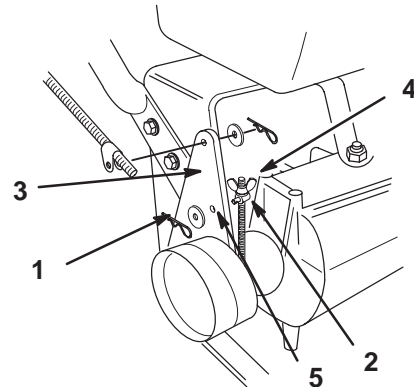

Figure 38
3. To adjust the brake remove the cotter pin and washer from the brake lever (Fig. 38).
4. Rotate the trunnion so it smoothly slides into brake lever hole **F** (Fig. 38). Tighten wing nut.
5. Secure trunnion to brake lever with washer and cotter pin (Fig. 38).